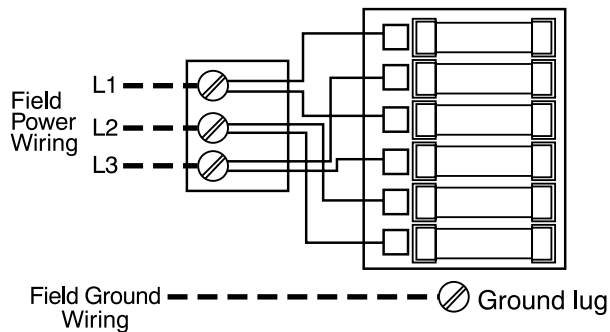
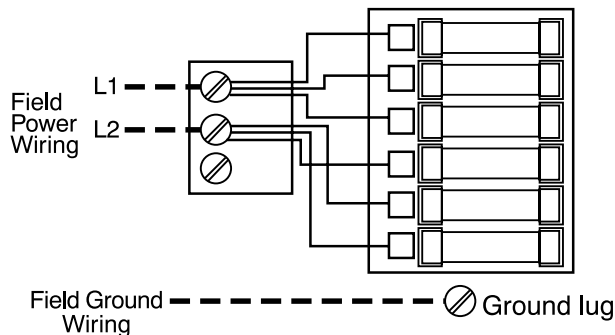
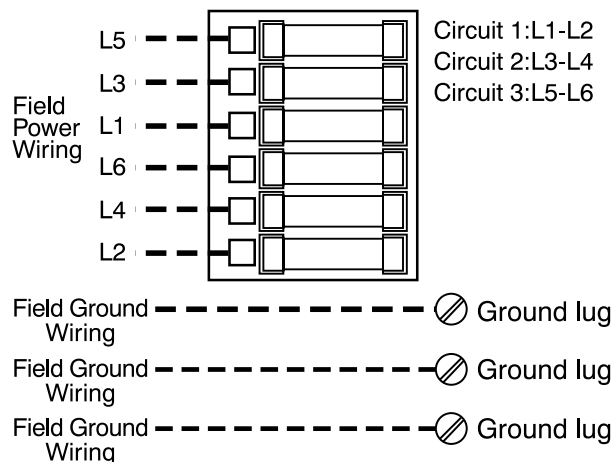

Fig. 18 – 24 and 30 kW Heaters (3-Phase Wiring Factory Supplied)
**Fig. 19 – 24 and 30 kW Heaters
**Fig. 20 – 24 and 30 kW Heaters
3. Fused heaters: See Fig. 14, Fig. 18, Fig. 19, and Fig. 20.